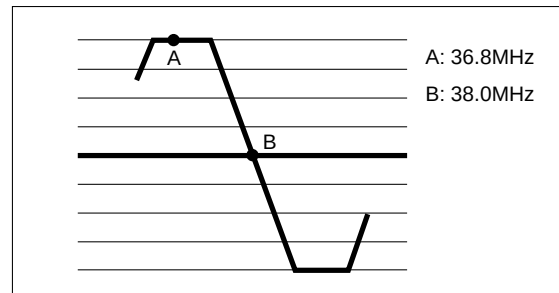

Fig.3: AFT waveform on Alignment Scope
- 2) Adjust IF AFT coil (LP5) so that 38.0MHz (Vc) point may be centered as Fig.3.